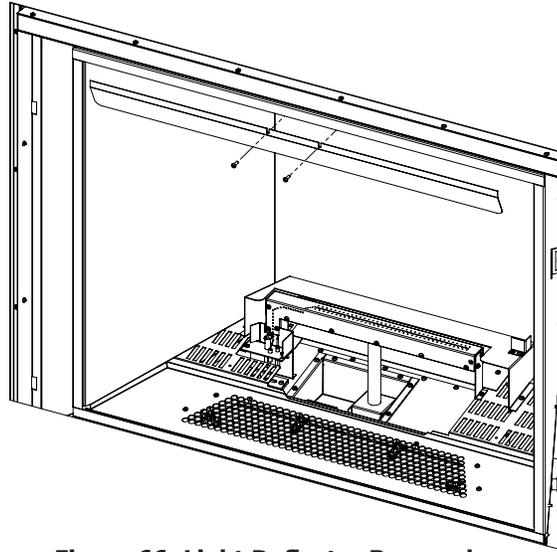

Figure 66: Light Deflector Removal
- Step 2.** Remove light deflector by loosening two retaining T-20 screws (see Figure 66).